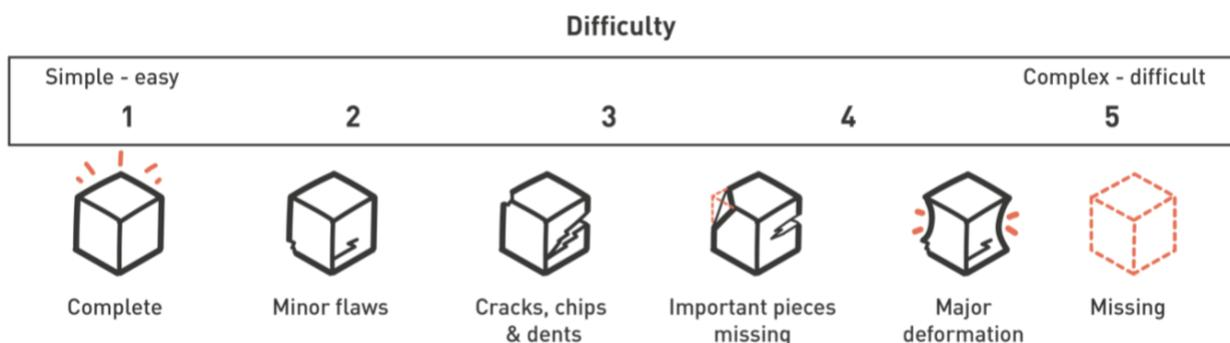

Figure 2 - Level of difficulty for part completeness, based on Repair Using 3D printing by Thijs Beerkens [7].
- B. **The broken part is available and complete.** The process of reproducing the part will be simpler (see Figure 2). Follow the rest of this guide.
- C. **The broken part is available, but sections are missing or deformed.** You can glue/tape the part together momentarily to allow you to further analyse it, then continue to follow the rest of this guide. Note this is only a momentary solution and not the final fix. Figure 2 shows the level of difficulty depending on how much of the part is missing.